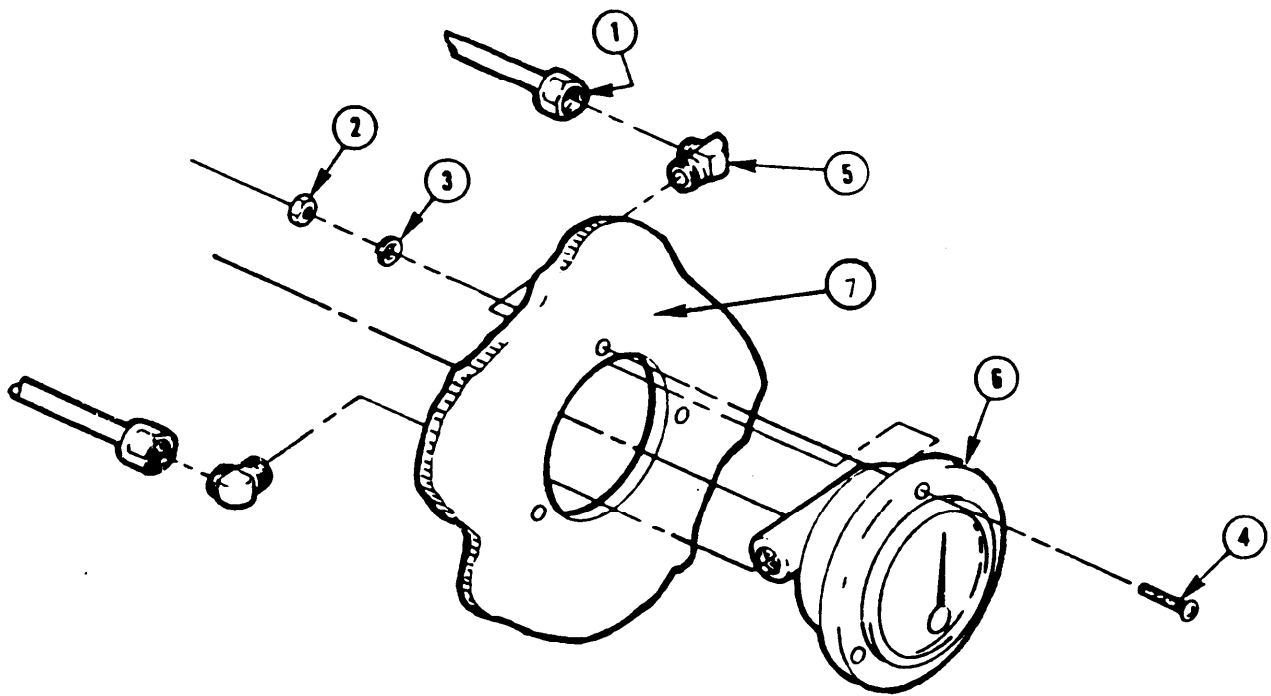

Figure 2-77. Gage psid (Typical)
b. Removal. (Figure 2-77)
- (1) Replace damaged tube assembly or pipe fittings.
- (2) Replace damaged or unserviceable pressure gage.
- (3) Send damaged pressure gage and replaced parts to Direct Support Maintenance.
- (4) Replace damaged nuts, bolts, screws, and washers.
f. Installation. (Figure 2-77)
- (1) Insert gage (6) in mounting hole in panel (7).
- (2) Insert three screws (4) through gage (6) and panel.
- (3) Install three lockwashers (3) and three nuts (2) on screw (4).
- (4) Install two 90° piping elbows (5) on gage (6).
- (5) Connect two pressure-tube coupling nuts (1) on 90° piping elbow (5).
- (6) Test pressure-tube fittings for leaks.